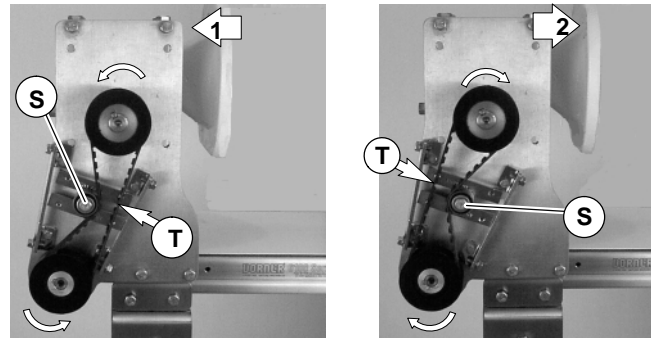

Figure 19
- Depending on conveyor belt travel (1 or 2 of Figure 19), locate timing belt tensioner (S) as shown. Tension timing belt to obtain 1/8" (3 mm) deflection for 1 lb (4.3 N) of force at timing belt mid-point (T). Tighten tensioner to 38 ft-lb (51 Nm).